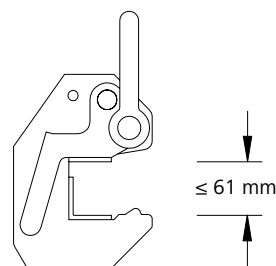

Fig. 28.2
1. Open the safety lever as far as possible (Fig. 28.2).
If the reference dimension exceeds 61 mm (Fig. 28.2), the crane hook must be replaced immediately. This also applies if only one side of the hook exceeds this dimension.